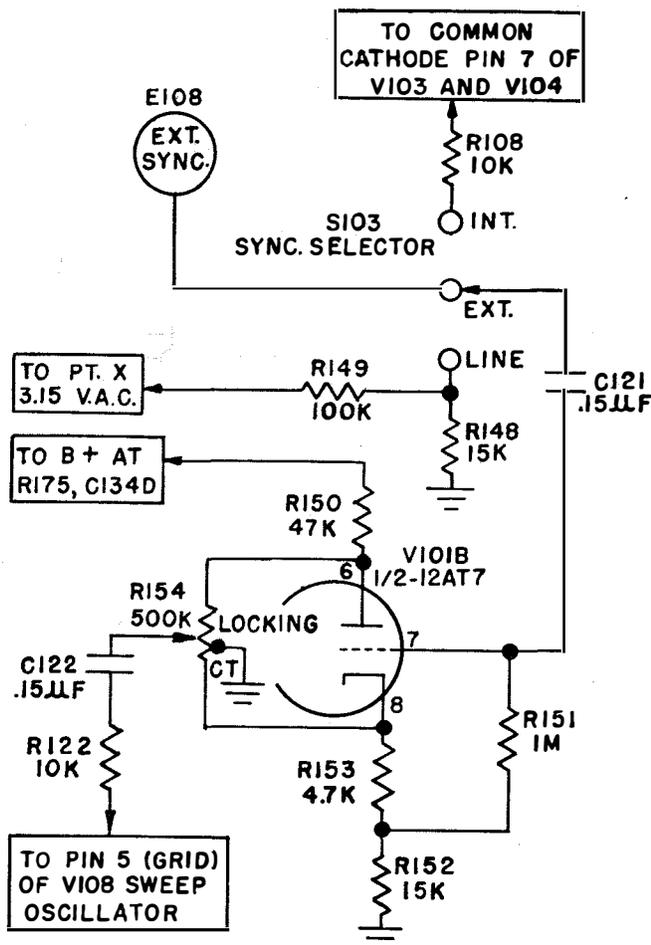

Figure 2-9. Sync. Selector—Amplifier
d. SYNC. SELECTOR-AMPLIFIER. (See Figure 2-9)